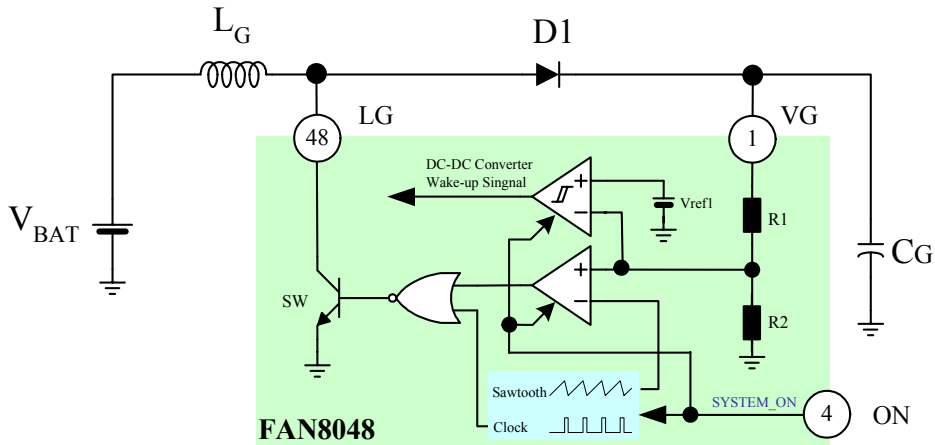

Figure 7. Set up Converter (VG Converter)
The VG converter is used to generate necessary power (VG) for upper side output power switches operation of 4 channels H-bridge driver and other internal circuit operations as shown in Figure 7. The output voltage (VG) of VG converter is internally set to 7.0V, and it activates DC-DC Converter 1 when VG converter output voltage reaches 3.9 V. Also VG converter has an oscillator function, which is required for switching operations and to minimize external components.